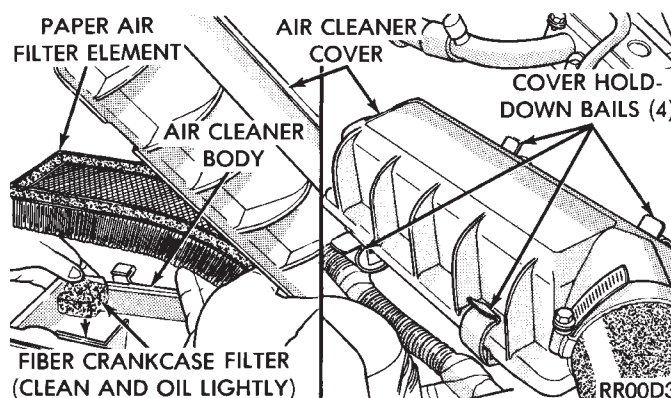
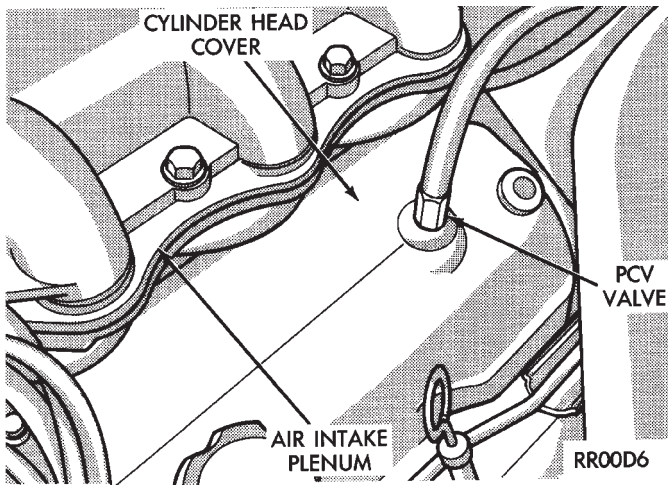

Fig. 7 Air Cleaner Assembly—3.0L Engine
Fig. 11 PCV System—3.0L Engine
- (1) Raise hood of vehicle and inspect all air cleaner components for damage or improper attachment.
- (2) Remove air cleaner cover (Fig. 7, 8 or 9).
- (4) Remove fiber crankcase filter (Fig. 7, 8 or 9) and clean with solvent, squeeze filter dry and apply small amount of engine oil. If a metallic mesh is used to retain fiber filter, clean mesh with solvent and reuse.
- (5) Clean inside of air cleaner cover and body with vacuum or compressed air. If oily, wash with solvent. To Install, reverse the preceding operation.
Engine crankcase pressure and emissions are vented into combustion chambers through the positive crankcase ventilation (PCV) system. The PCV system consists of a crankcase filter (Fig. 7, 8 or 9), PCV valve (Fig. 11, 12 or 13) and hoses to complete a